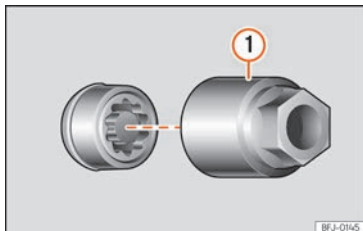

Fig. 195 Anti-theft wheel bolt with cap and adapter.
- Insert the special adapter » Fig. 195 ① (vehicle tools » page 251) onto the anti-theft wheel bolt and push it on as far as it will go.